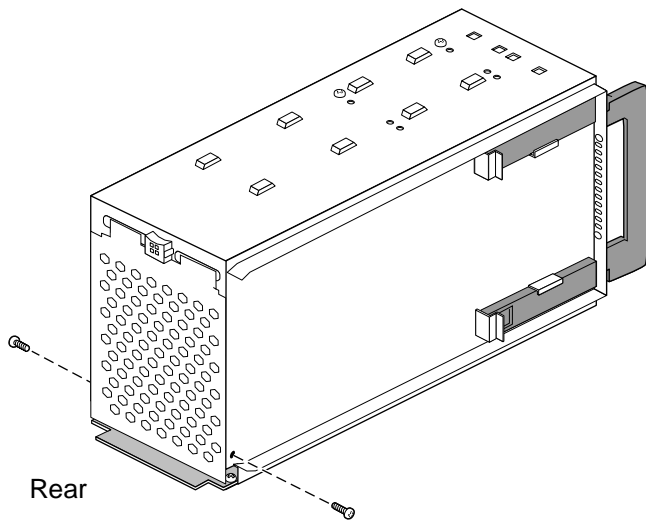

Figure 2-15 Replacing the Rear Access Plate on the Peripheral Carrier
7. Replace the access plate. See Figure 2-15.